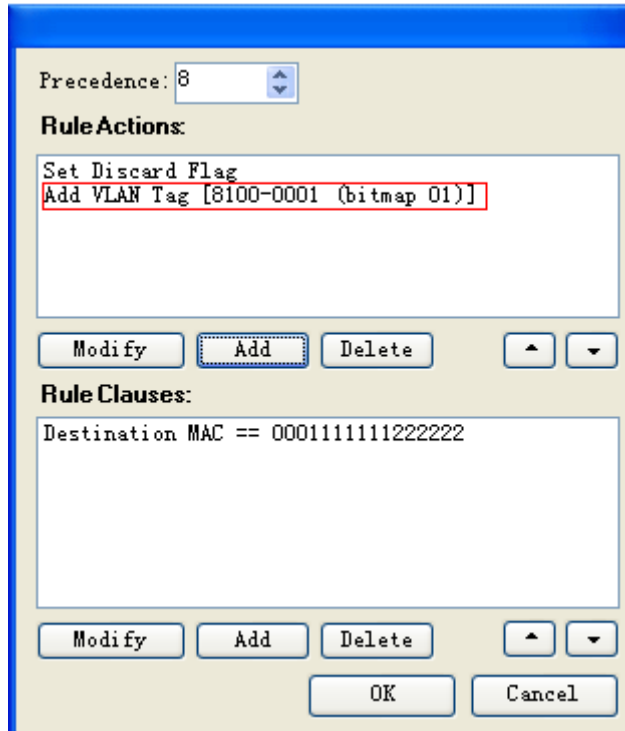

Figure 8-7 Rule Actions Display
- c. Click OK to close the Action window and view the previously selected Action in the display part of Rule Actions shown in the Figure 8-7;